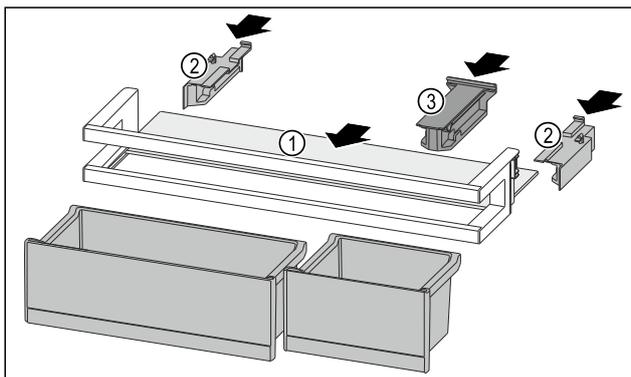

Fig. 93
- ▶ Push the shelf Fig. 93 (1) into the side recesses.
- ▶ Insert the side parts Fig. 93 (2).
- ▶ Insert the holding part Fig. 93 (3).